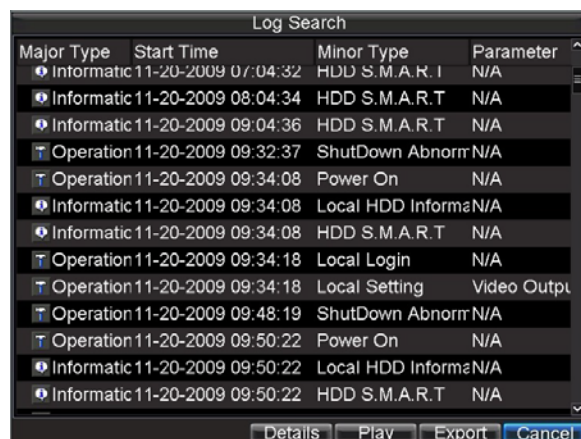

Figure 16. Log Search Results
3. Click the Search button to begin search. If logs matching the search criteria are found, it will be displayed in a list similar to that of Figure 16.